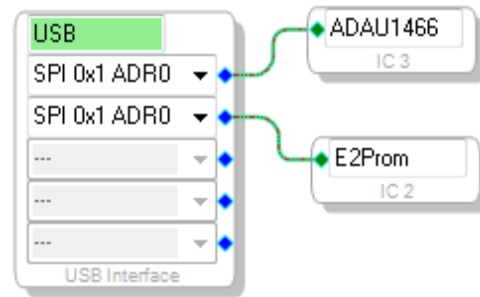

Figure 69. E2Prom Setup in Hardware Configuration Tab
3. Set the communication mode to **SPI 0x1 ADDR0** (see Figure 69). (There is no physical connection between the USBi connector and the EEPROM on the EVAL-ADAU1466Z. SigmaStudio writes a small program to the ADAU1466, which then writes the self boot data from the master SPI port to the EEPROM.)